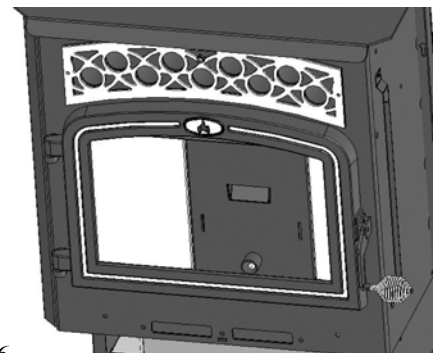

Figure 6
6. Re-install left & right combustion passageway panels. Secure with wing nuts previously removed. Figure 6.